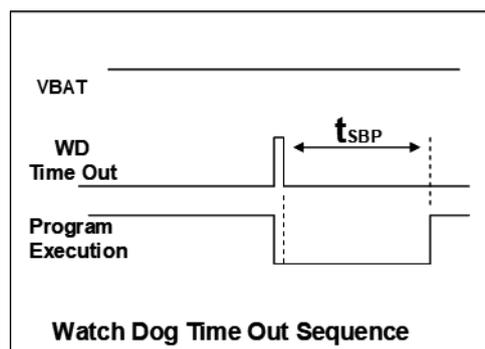

Fig.17: Sequence of Watch Dog Time Out
When WDT is timeout, PMB182(B) will be reset to restart the program execution. The relative timing diagram of watchdog timer is shown as Fig.17.